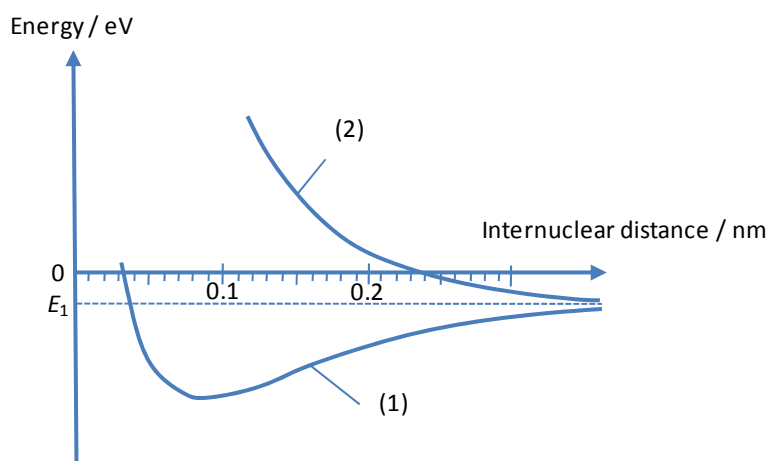

Fig. 1
where $1s_A$ is a ground-state hydrogen orbital centered on nucleus A, and $1s_B$ is centered on nucleus B. The energies for the molecular orbitals are shown in Figure 1 as a function of the internuclear distance of H_2^+ . (Note that the potential energy between an electron and a proton is set zero, when an electron and proton is fully separated.) Write which energy curve is for ϕ_a .
c) The two energy curves in Fig. 1 converge at E_1 as the internuclear distance becomes infinity. Write which physical parameter of the hydrogen atom the energy $|E_1|$ equals to.